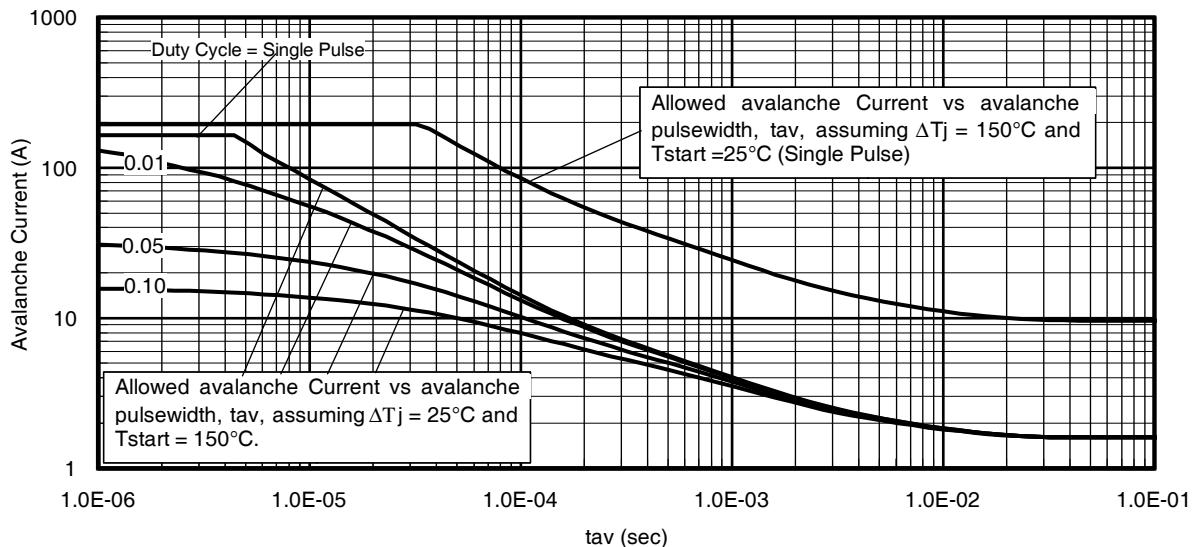

Fig 14. Typical Avalanche Current vs.Pulsewidth
- ① Calculated continuous current based on maximum allowable junction temperature Bond wire current limit is 195A. Note that current limitation arising from heating of the device leads may occur with some lead mounting arrangements.
- ② Repetitive rating; pulse width limited by max. junction temperature.
- ③ Limited by $T_{J\text{max}}$, starting $T_J = 25^\circ\text{C}$, $L = 0.021\text{mH}$ $R_G = 25\Omega$, $I_{AS} = 165\text{A}$, $V_{GS} = 10V$. Part not recommended for use above this value.
- ④ $I_{SD} \leq 165\text{A}$, $di/dt \leq 430\text{A}/\mu\text{s}$, $V_{DD} \leq V_{(\text{BR})\text{DSS}}$, $T_J \leq 175^\circ\text{C}$.
- ⑤ Pulse width $\leq 400\mu\text{s}$; duty cycle $\leq 2\%$.
- ⑥ $C_{oss \text{ eff. (TR)}}$ is a fixed capacitance that gives the same charging time as C_{oss} while V_{DS} is rising from 0 to 80% V_{DSS} .
- ⑦ $C_{oss \text{ eff. (ER)}}$ is a fixed capacitance that gives the same energy as C_{oss} while V_{DS} is rising from 0 to 80% V_{DSS} .
- ⑧ When mounted on 1" square PCB (FR-4 or G-10 Material). For recommended footprint and soldering techniquea refer to application note # AN- 994 techniques refer to application note #AN-994.
- ⑨ R_θ is measured at T_J approximately 90°C .
- ⑩ Limited by $T_{J\text{max}}$, see Fig. 14, 15, 22a, 22b for typical repetitive avalanche performance.
- ⑪ $R_{\theta JC}$ value shown is at time zero.
Notes on Repetitive Avalanche Curves , Figures 14, 15:
7. ΔT = Allowable rise in junction temperature, not to exceed T_{jmax} (assumed as $25^{\circ}C$ in Figure 14, 15).